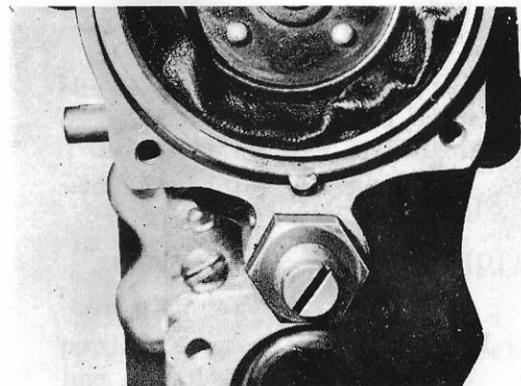

Fig. 9-59
- 1) Bring the diaphragm assembly (with angleich spring and push rod) into proper alignment with the groove in the main housing with the projection on the outer circumference faced downward. (See Fig. 9-59)